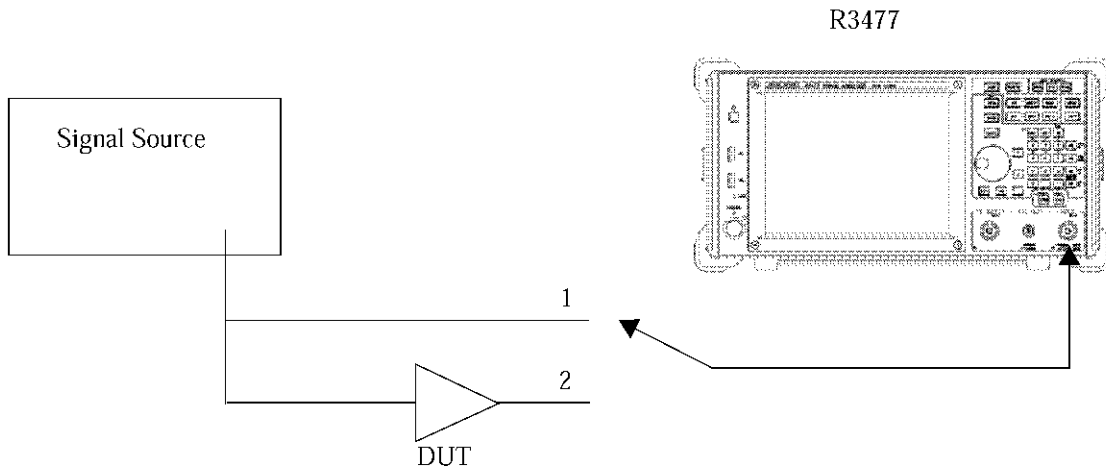

Figure 4-7 Connection Diagram Using the Equalizing Filter
1. Set the signal path shown in Figure 4-7 to 1 and perform the measurement according to the procedure described in Section 4.1. If the Modulation menu is not displayed after the measurement, touch the **Return** key to return to the Modulation menu.
2. Touch **Meas Control**, **Meas Parameters**, and **Mod Analysis(1)**. The **[Mod Analysis(1) Setup]** dialog box is displayed on the screen.
6. Switch the signal path shown in Figure 4-7 to 2 and press the **SINGLE** key on the front panel.